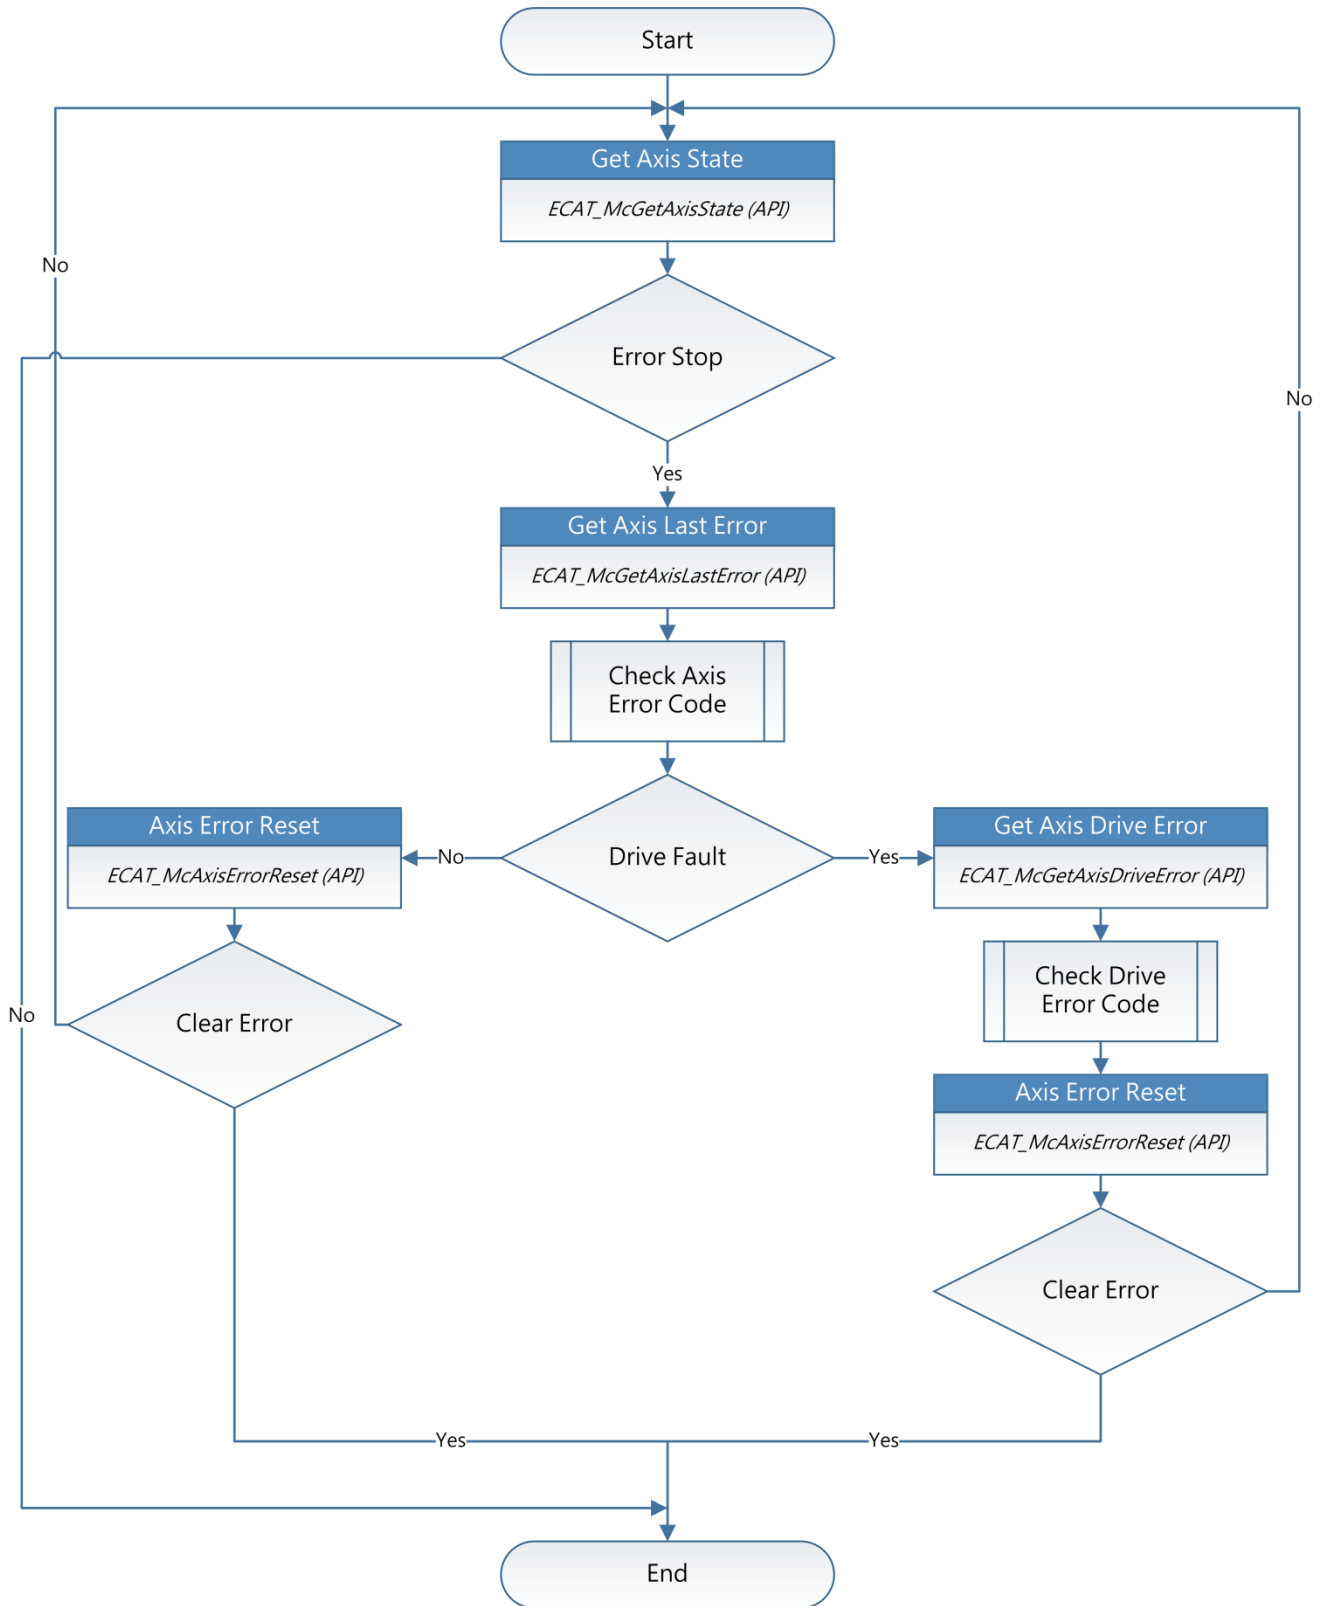

Figure 4.6
As shown in Figure 4.6, when the axis state is `ErrorStop`, `McGetAxisLastError` function can be used to get the error code. From the error code, the cause of error can be determined. The error handling includes two parts: (1) If the error is not a servo drive error, the user can call `McAxisErrorReset` to clear the error. The axis state will be changed from `ErrorStop` to `Standstill`. (2) If the error comes from a servo drive, `McGetAxisDriveError` function can be called to get the drive's error code, and then call `McAxisErrorReset` to clear its error. Some servo drive errors can be cleared by the reset command; but some cannot.